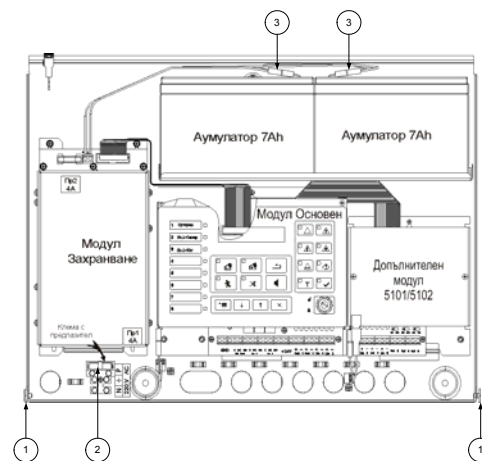

Fig.5
2.2. Unscrew the two screws from the cover of the fire control panel pos.1 (Fig.5).
2.4. Remove the fuse Fu1 from the socket pos.2 (Fig.5).
2.5. Disconnect the cables from the terminals of the back up batteries pos.3. (Fig.5).
2.8. Put back Fuse Fu1 to the socket pos.2 (Fig.5).
2.9. Connect the cables to the terminals of the back up batteries pos.3 (Fig.5).
2.11. Screw in the screws of the fire control panel cover pos.1 (Fig.5).